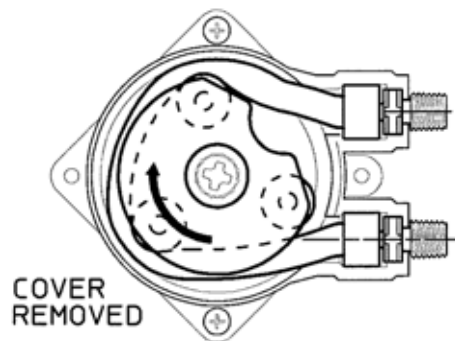

Figure 7b: Pump Head Assembly with Front Cover Removed
- 4) Remove the two thumb screws holding on the pump head cover and remove - See figure 7b above.